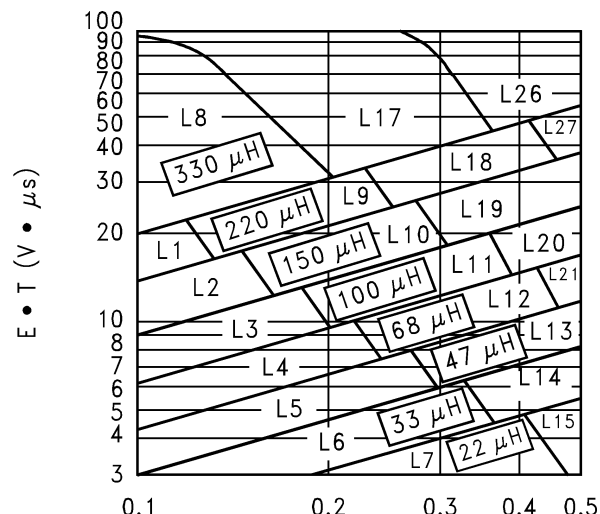

Figure 29. LM2597/LM2597HV-ADJ
2. Inductor Selection (L1) A. Calculate the inductor Volt microsecond constant $E \cdot T$ ($V \cdot \mu s$), from the following formula: $E \cdot T = (V_{IN} - V_{OUT} - V_{SAT}) \cdot \frac{V_{OUT} + V_D}{V_{IN} - V_{SAT} + V_D} \cdot \frac{1000}{150} (V \cdot \mu s)$ where V_{SAT} = internal switch saturation voltage = 0.9V V_D = diode forward voltage drop = 0.5V B. Use the $E \cdot T$ value from the previous formula and match it with the $E \cdot T$ number on the vertical axis of the Inductor Value Selection Guide shown in Figure 29. C. on the horizontal axis, select the maximum load current. D. Identify the inductance region intersected by the $E \cdot T$ value and the Maximum Load Current value. Each region is identified by an inductance value and an inductor code (LXX). E. Select an appropriate inductor from the four manufacturer's part numbers listed in Table 3.	2. Inductor Selection (L1) A. Calculate the inductor Volt $\cdot$ microsecond constant ($E \cdot T$), $E \cdot T = (28 - 20 - 0.9) \cdot \frac{20 + 0.5}{28 - 0.9 + 0.5} \cdot \frac{1000}{150} (V \cdot \mu s)$ $E \cdot T = (7.1) \cdot \frac{20.5}{27.6} \cdot 6.67 (V \cdot \mu s) = 35.2 (V \cdot \mu s)$ B. $E \cdot T = 35.2 (V \cdot \mu s)$ C. $I_{LOAD(max)} = 0.5A$ D. From the inductor value selection guide shown in Figure 29, the inductance region intersected by the 35 ($V \cdot \mu s$) horizontal line and the 0.5A vertical line is 150 μH, and the inductor code is L19. E. From Table 3, locate line L19, and select an inductor part number from the list of manufacturers part numbers.